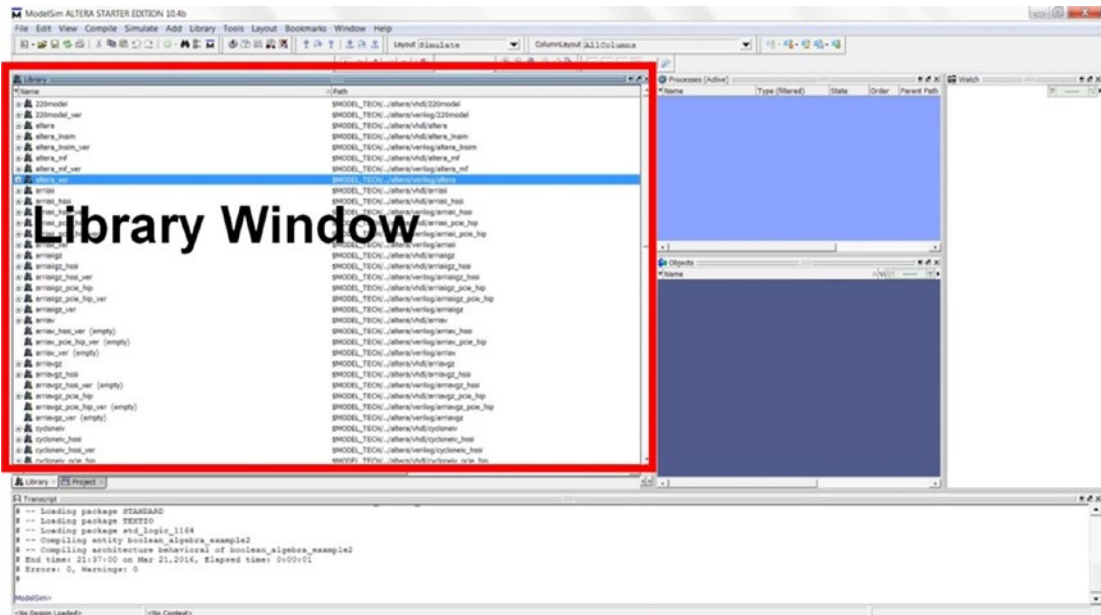

Figure 8-11. ModelSim Main window
- 8. The following two windows should pop up (see Figure 8-11 and 8-12)